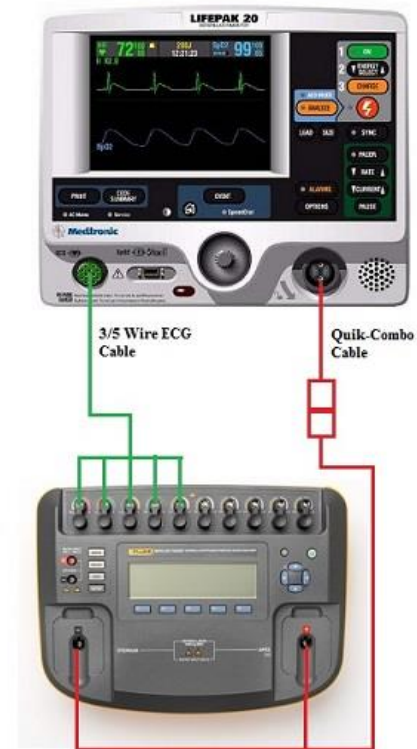

Figure 1.26: Pacer Test Setup
1. Establish the setup as shown in Figure 1.26.